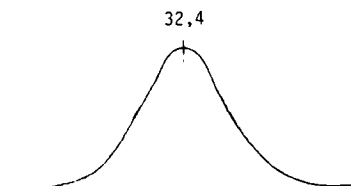

Fig. 4
2. Remove the load resistor from the detector coil and align the coil LM 54 to the centre frequency 32,4 MHz as shown in Fig 4.